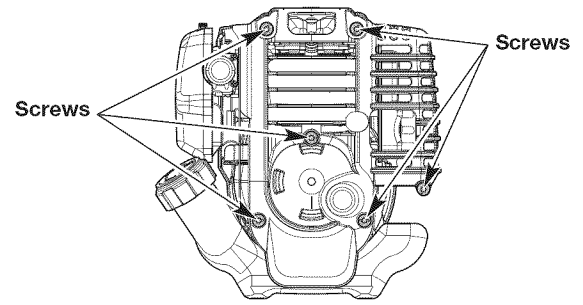

Fig. 25
1. Remove the 6 screws from the engine cover with a flat-head screwdriver or T-25 Torx screwdriver (Fig. 25). Remove the engine cover.
2. Remove the 6 screws from the engine cover with a flat-head screwdriver or T-25 Torx screwdriver (Fig. 25). Remove the engine cover.